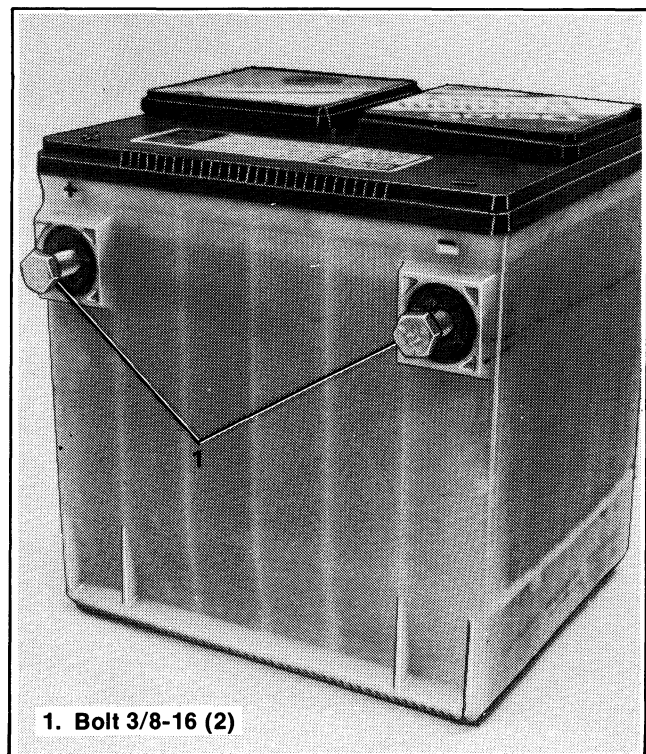

Figure 8-44. Battery — Charging Out Of Car
1. Thread a 3/8-16 bolt into each terminal, hand tight (see Figure 8-44).